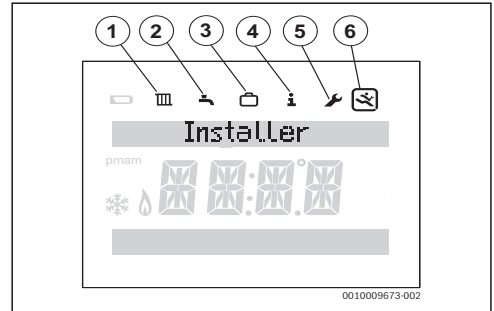

Fig. 13 Installer menu display
- ▶ Press the **menu** and  keys until the main menu with service menu is displayed (→ Fig. 13).